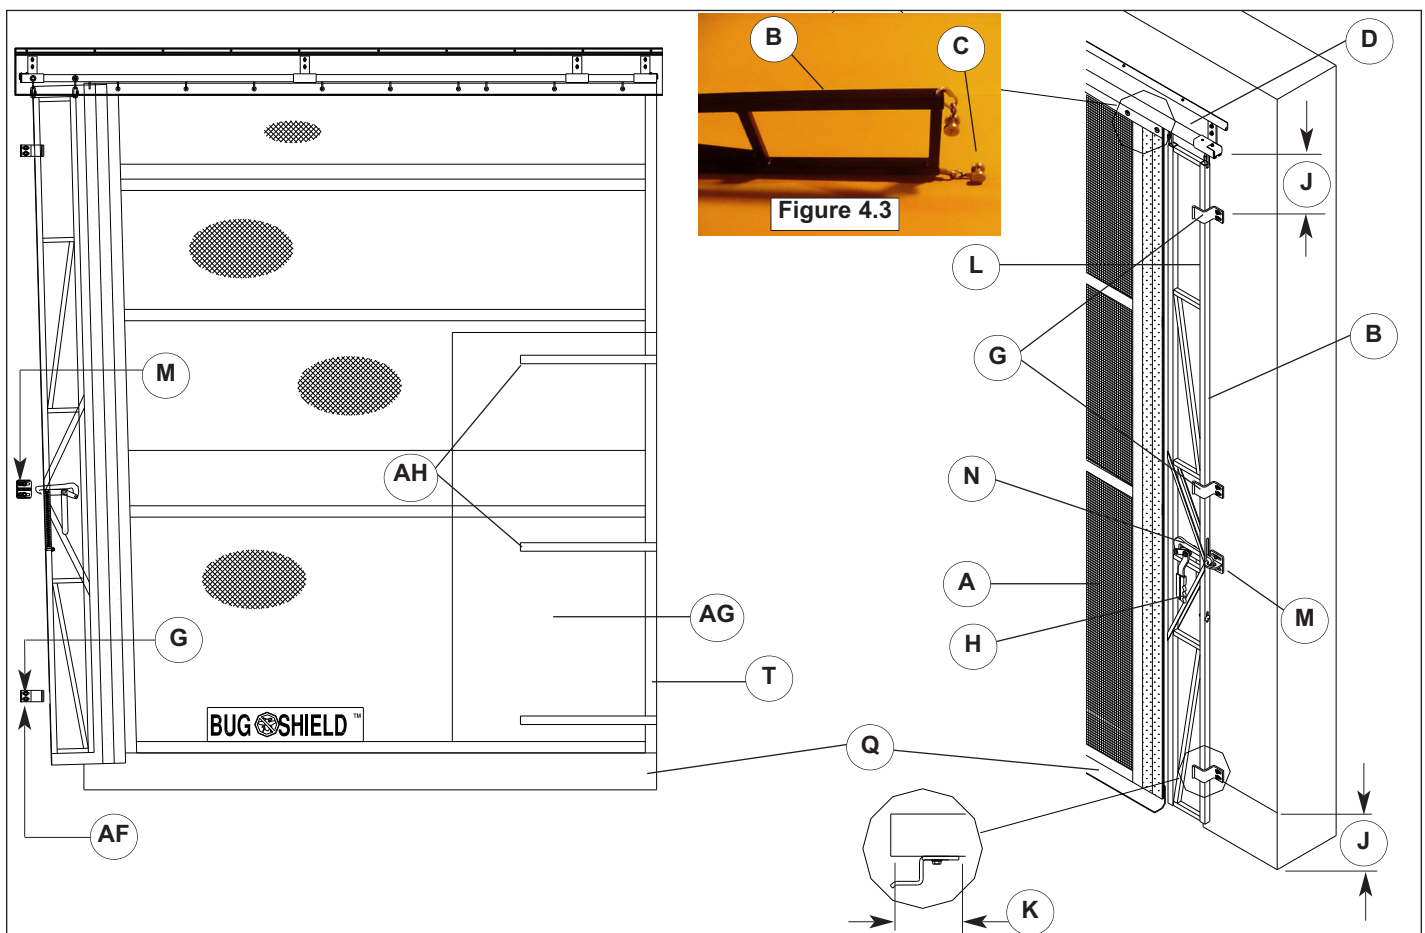

Figure 4.2
3. In order to keep the nose seal (L) tight against the jamb of the door, you will need to install the “Z” brackets (G).
4. Pulling the door closed, position it such that the handle (H) on the back side does not hit or catch on the back side of the jamb.
5. Position one “Z” bracket 12” [305] (J) from the floor and one bracket 12” [305] (J) from the top of the jamb. The brackets should be located approximately 4 1/2” [114] (K) from the edge of the jamb to the back side of the bracket, **Figure 4.2**.
7. If the nose seal does not engage (AF) the “Z” brackets, loosen pressure strap at the bottom to allow curtain nose seal to meet the “Z” bracket, or adjust the lower “Z” bracket and catch bracket